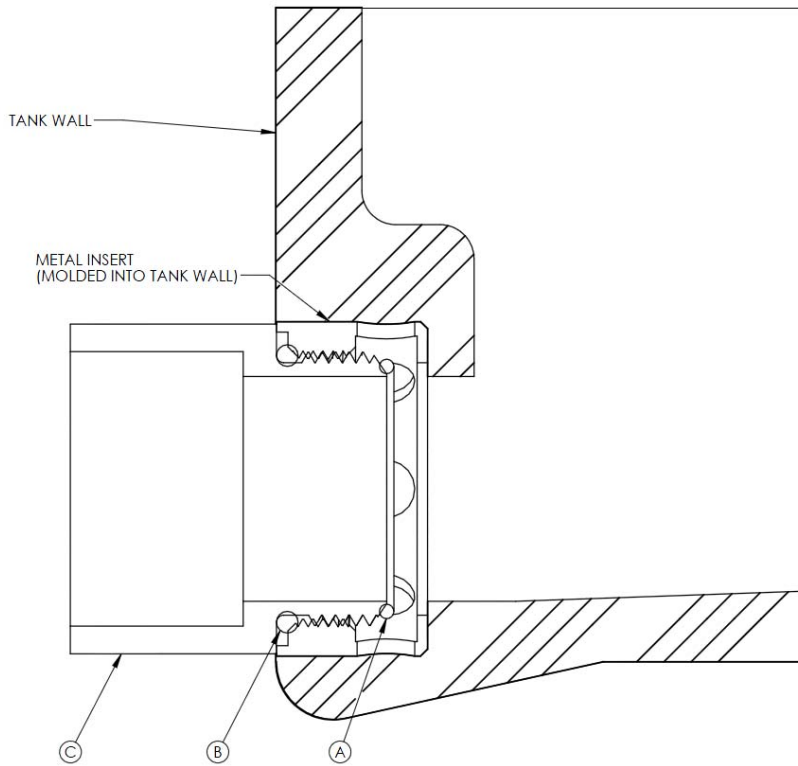

Figure 6.5
6.5.1 The SUMO fitting shall be constructed with 1 ea. smaller o-ring (A), 1 ea. larger o-ring (B), and 1 ea. SUMO adapter (C). Refer to Figure 6.5 for part identification. **NOTE - The tank is shipped with a shipping stabilizer installed in the SUMO outlet. NEVER move the container without the shipping stabilizer installed.**
6.5.3 Install the smaller o-ring inside the SUMO molded-in fitting. Make sure it is placed in the o-ring seat area evenly. Carefully stretch the larger o-ring enough to install it on the SUMO adapter. **Only a SII SUMO adapter may be used. Use of a non-approved adapter may damage your tank outlet and will void the tank warranty.** The o-ring may be lubricated with a suitable lubricant such as water. Do not use silicone or Teflon sealants. Screw the adapter in until the step on the adapter is flush with the tank wall. Do not over-torque the adapter (25 ft. - lbs. of torque maximum). Figure 6.5 shows a sectional view of an assembled SUMO fitting.